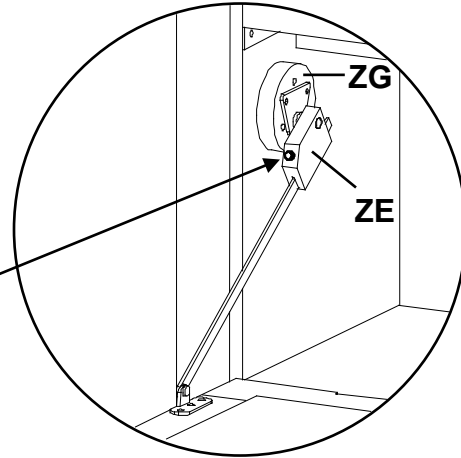

Fig. 14
14. Open the Door (Rc). To adjust the brake tension on the Door Stay (ZE) turn the screw on the front of the Door Stay clockwise to loosen or counterclockwise to tighten. See Figures 14 and 14a.